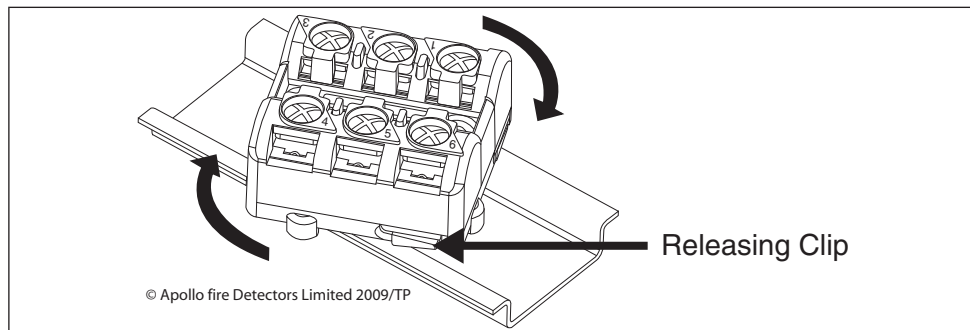

Fig. 2 – Mini Monitor Module on a DIN Rail.
2. The unit can be attached to a standard 1 3/8" DIN rail, see **Fig.2**. To remove device, lift the releasing clip and turn the unit anti-clockwise.